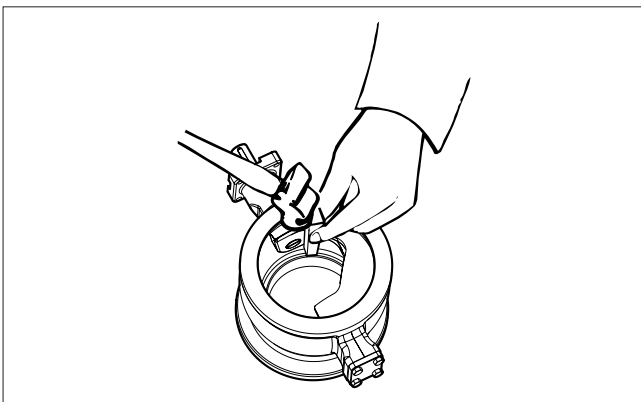

Fig. 32 Securing with a plastic spindle
- Use a plastic spindle to ensure that the seat is correctly placed and can move freely, Fig. 32.